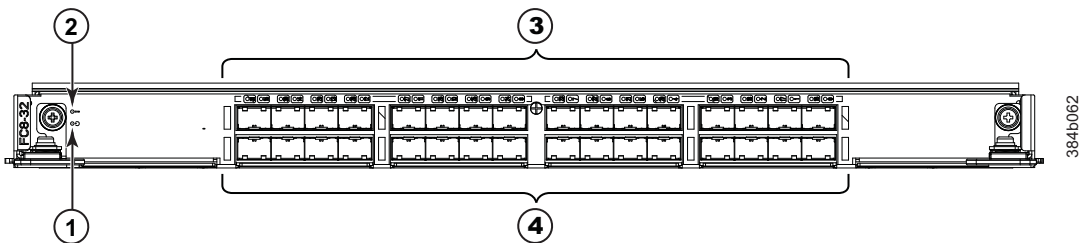

Figure 52. FC8-32 port blade
- Figure 52 shows an FC8-32 port blade